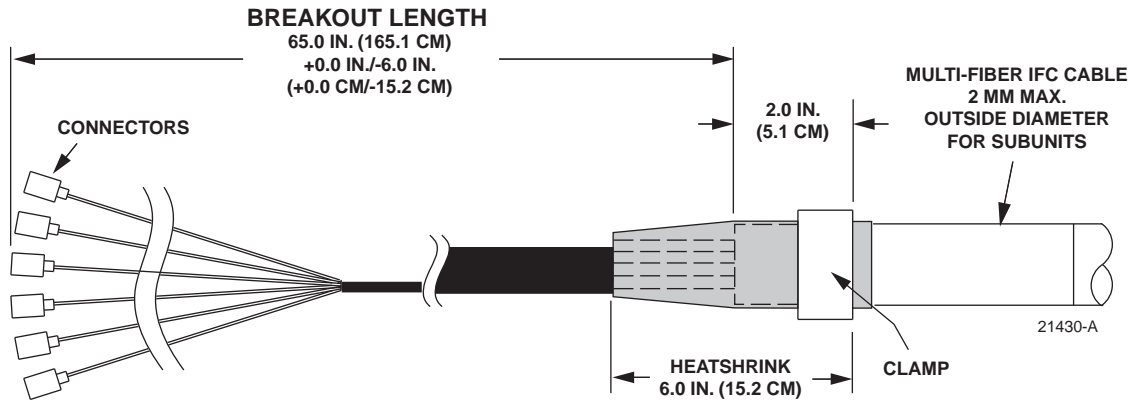

Figure 32. Breakout Dimensions for Breakout Cable Routed to Standard Termination Panel
1. Break out the cable according to the dimensions provided in Figure 32.